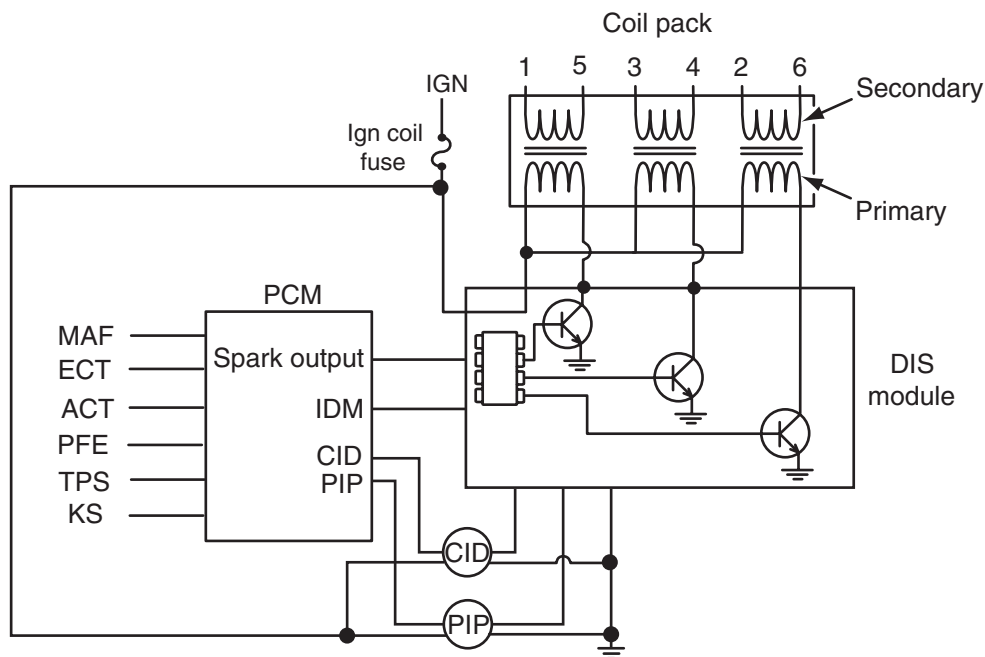
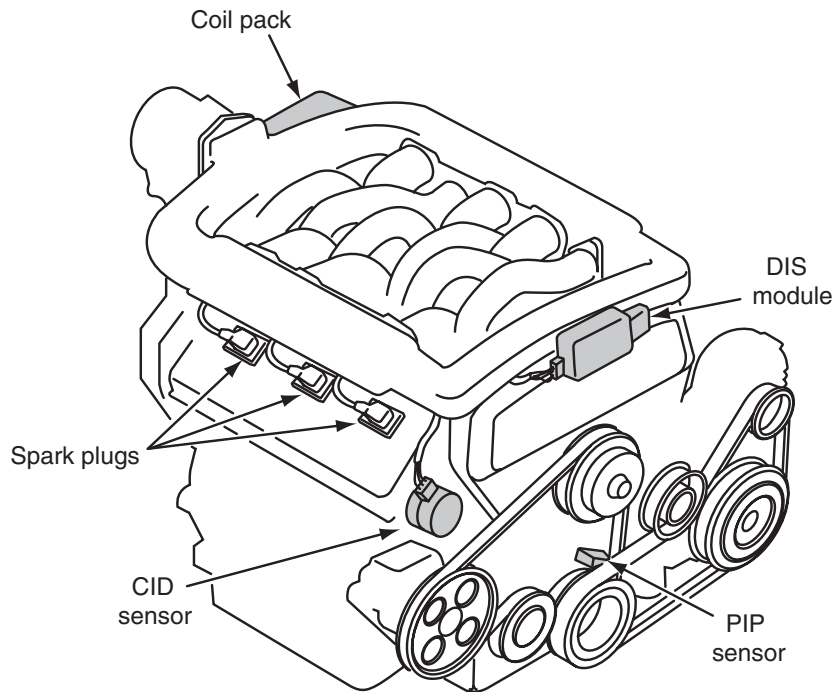
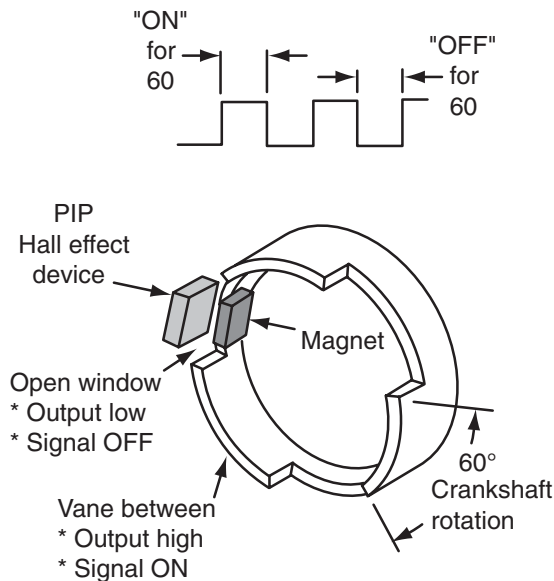
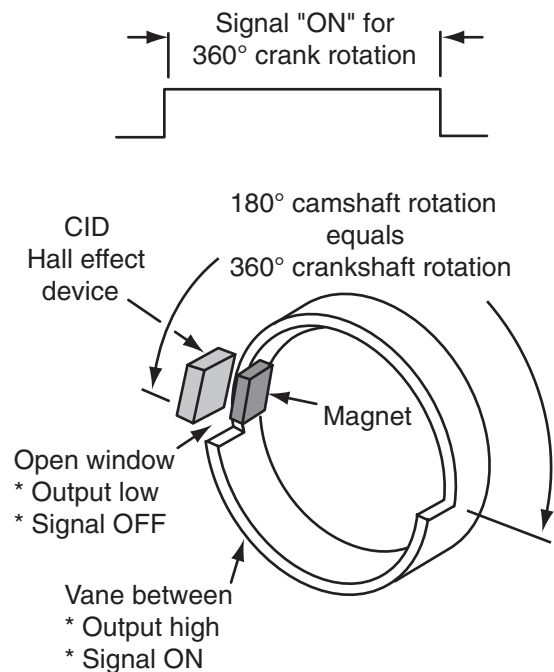

Figure 12-18 DIS, supercharged 3.8 L engine. © Cengage Learning 2012
Figure 12-19 DIS components, 3.0 L SHO engine. © Cengage Learning 2012
Figure 12-20 PIP sensor, supercharged 3.8 L and 3.0 L SHO engines. © Cengage Learning 2012
Figure 12-22 CID sensor, supercharged 3.8 L and 3.0 L SHO engines. © Cengage Learning 2012
3.8 L supercharged engine, the 3.0 L special high-output (SHO) engine, and the 2.3 L engine used in the Ranger pickup truck (Figure 12-18). On these applications, the PIP sensor is located on the front of the engine, just behind the crankshaft pulley and hub assembly (Figure 12-19). A vane cup on the back of the pulley triggers the Hall effect PIP sensor switch (Figure 12-20). Since the switch
The CID sensor is also a Hall effect switch. On the 3.0 L SHO engine, the CID sensor is mounted on the right end of the rear head; one of the overhead camshafts drives it (Figure 12-19). On the 3.8 L engine the CID sensor mounts where the distributor used to be on an earlier engine, driven directly by the camshaft. On both these engines, the camshaft drives a single vane cup (Figure 12-22). As the leading edge of the vane moves between the Hall effect switch magnet and crystal, the CID signal rises to battery voltage. This tells the DIS module and the PCM that the number 1 cylinder is at 26 degrees ATDC on its power stroke. As the trailing edge of the vane moves out from between the Hall effect switch magnet and crystal, the CID signal drops to 0.4 V or less. This in turn tells the DIS module and the PCM that the number 1 cylinder is at 26 degrees ATDC on its intake stroke. Either transition, voltage either rising or falling, identifies the position of the number 1 cylinder. The DIS module uses this information during cranking to determine which coil to fire first.
beginning in the 1988 model year. A wire is connected to the negative primary terminal of the ignition coil and then connects to the PCM via a 22 k Ω resistor (Figure 12-25). The resistor protects the PCM from the voltage spike that occurs in the primary winding when current flow is turned off. On DIS applications, the IDM signal originates in the DIS ignition module and is then routed to the PCM (Figure 12-18).